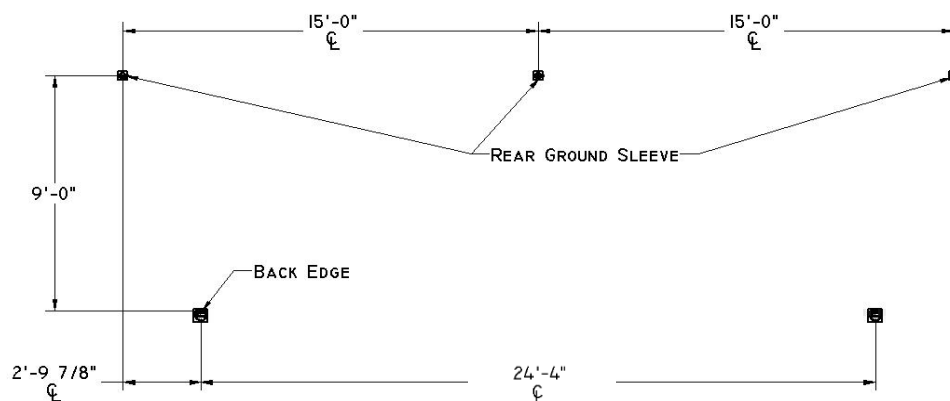
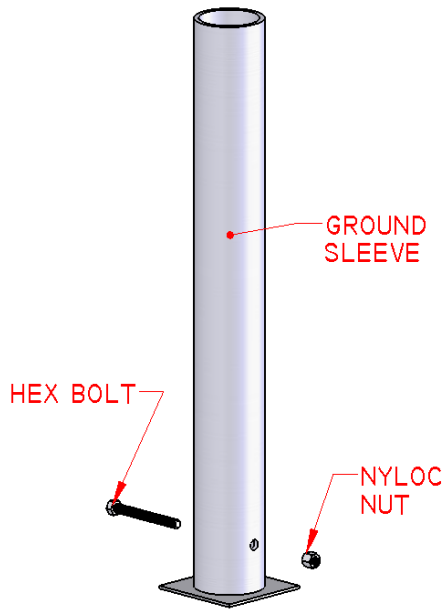

Figure 1
Figure 2
1. Start by laying out the ground sleeves according to the layout, orientate parallel to the field end line (Fig. 1). Each rear ground sleeve comes with 3/8" x 3-1/2" long hex bolt and 3/8" nyloc nut as shown (Fig. 2 & 3). Each of the front ground sleeves comes as shown (Fig. 4), the flat edge is to face the field. Excavate holes for the footings and set the concrete forms. Exact footing requirements will vary based on local building codes and site specific soils reports.